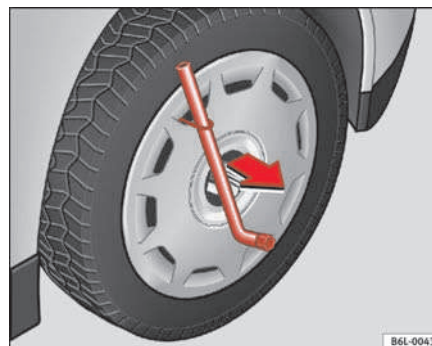

Fig. 132 Remove hub caps
- Remove the wheel cover using the wire hook ⇒ fig. 132.